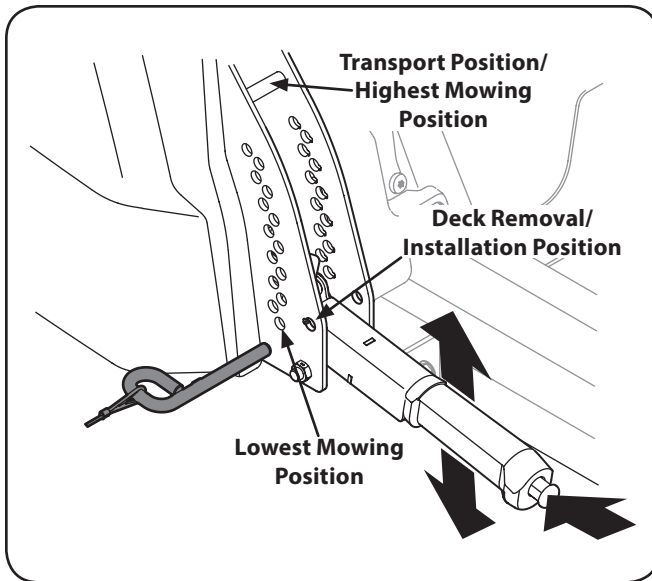

Figure 7-3
- a. Using the deck lift handle, raise the deck to the position that provides the most horizontal run of the belt between the deck idler pulleys and the PTO pulley on the bottom of the engine. See Figure 7-3.
- d. Lower the deck into the deck removal/installation position using the deck lift handle. See Figure 7-3.
- e. Lower the deck into the deck removal/installation position using the deck lift handle. See Figure 7-3.